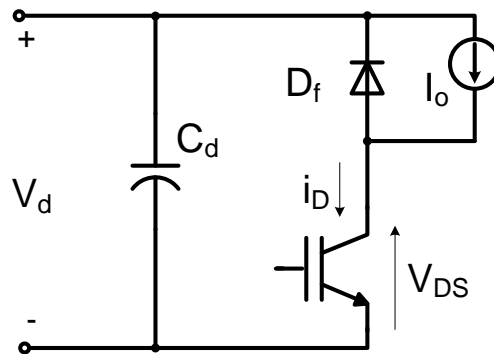

Figure 4.2 An IGBT used to switch a diode-clamped inductive load
- c. In the circuit shown in figure 4.2 an IGBT is used to switch a diode-clamped inductive load. The load is represented by a constant current source I_o . The free-wheeling diode D_f is assumed to be ideal.
- c.i For the case in c), sketch an equivalent circuit of the circuit shown in figure 4.2 that can be used to estimate the turn on current and voltage waveforms of the IGBT.